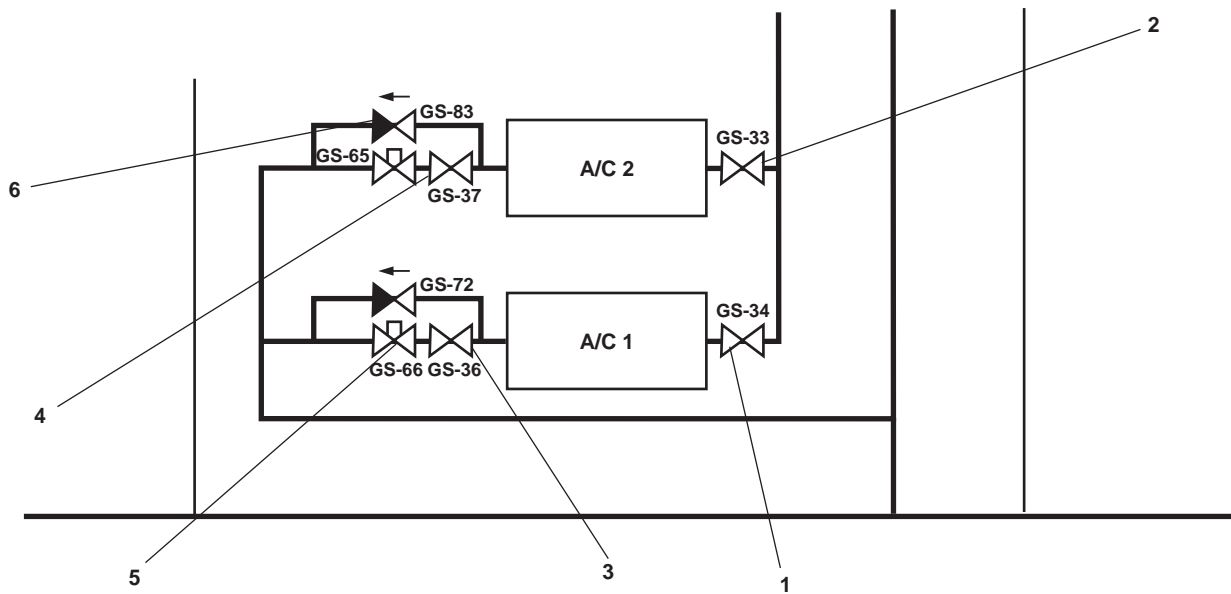

Figure 3. Condenser Cooling Water Valve Locations
1. OPEN GS-34 A/C COND No. 2 SPLY (figure 3, item 1) or GS-33 A/C COND No. 1 SPLY (figure 3, item 2).
2. OPEN GS-36 WTR RGLTR COV (figure 3, item 3) or GS-37 WTR RGLTR COV (figure 3, item 4).
3. CLOSE GS-72 BYP WTR RGLTR (figure 3, item 5) or GS-83 BYP WTR RGLTR (figure 3, item 6).